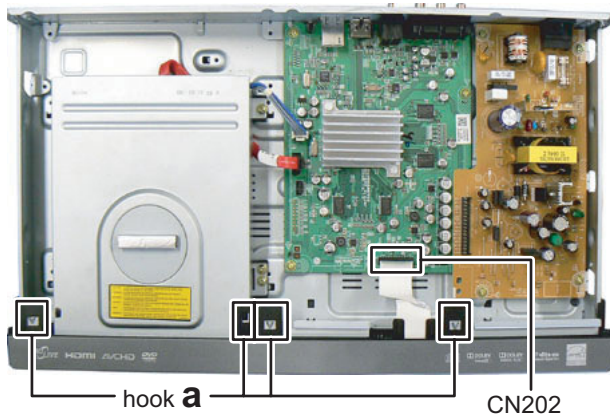

Fig.2
3.1.2 Removing the Front panel (See Fig.2 to 4)
- (1) Disconnect the card wire from Front panel connected to connector **CN202** of the Main board. (See Fig.2)
- (2) Disengage four hooks **a** engaged top side of the Front panel. (See Fig.2)